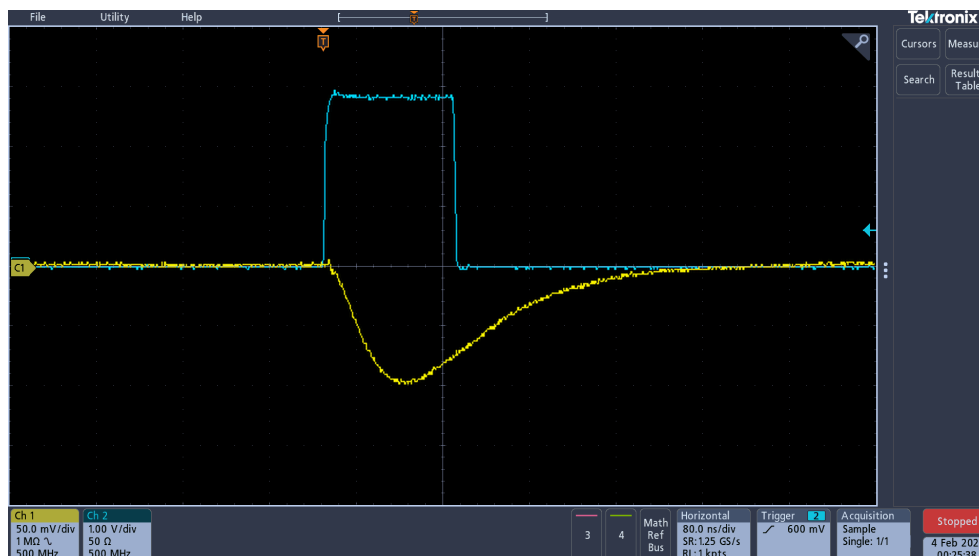

Fig. 10.36: Example of HG Preamplifier output (yellow line) together with the LED driver trigger (blue line).
6. Select the "PREAMP_HG" option for the "Analog Probe" parameter and press the Apply button. The output is the **negative** polarity signal from the Citiroc-1A HG Preamplifier of the selected channel and should be similar to the one shown in Fig. 10.36.